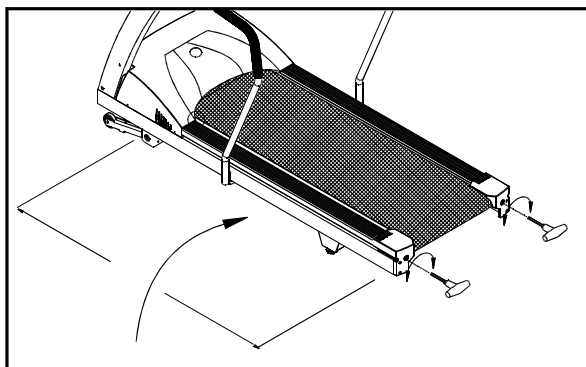

Fig.7-3
11. If the belt is too loose, you can tighten the belt by equally adjusting both rear roller bolts clockwise 1/2 turn at a time. Conversely, if the belt is too tight, adjust both rear roller bolts counterclockwise 1/2 turn at a time (see Fig.7-3).